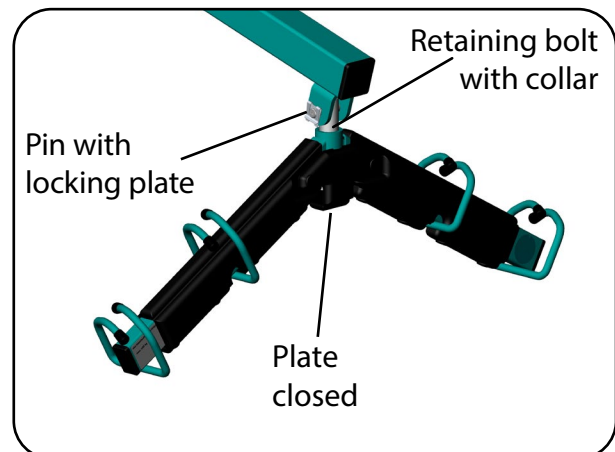

Fig. 6.2.07 – Spreader bar installed
13. Attach the spreader bar with the inserted retaining bolt with collar to the lifting arm by inserting the bolt through the holes on the end of the lifting arm. Secure the bolt with the locking plate and close the bar padding (plate) (Fig. 6.2.07).